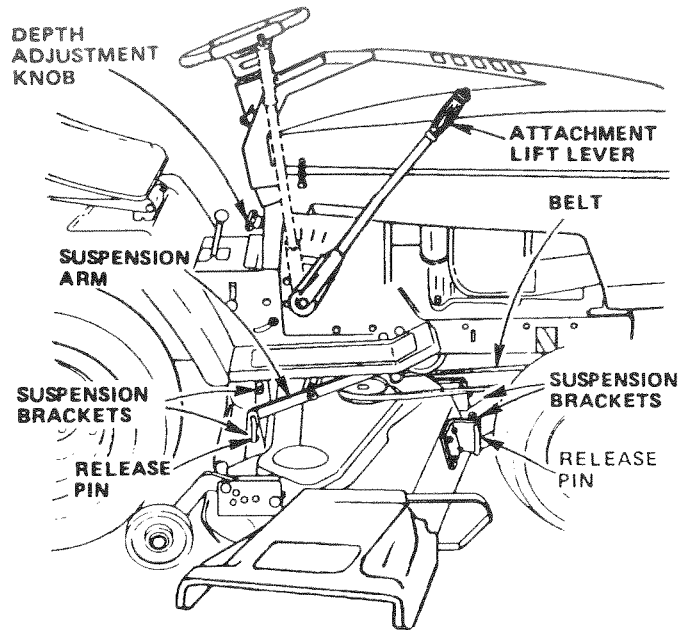

FIGURE 50
Pull the four (4) Release Pins out of Suspension Brackets (Fig. 50).
NOTE: IF AN ATTACHMENT OTHER THAN THE MOWER IS TO BE MOUNTED ON THE TRACTOR, THE L.H. AND R.H. SUSPENSION ARM (Fig. 50) SHOULD BE MOVED FROM TRACTOR.